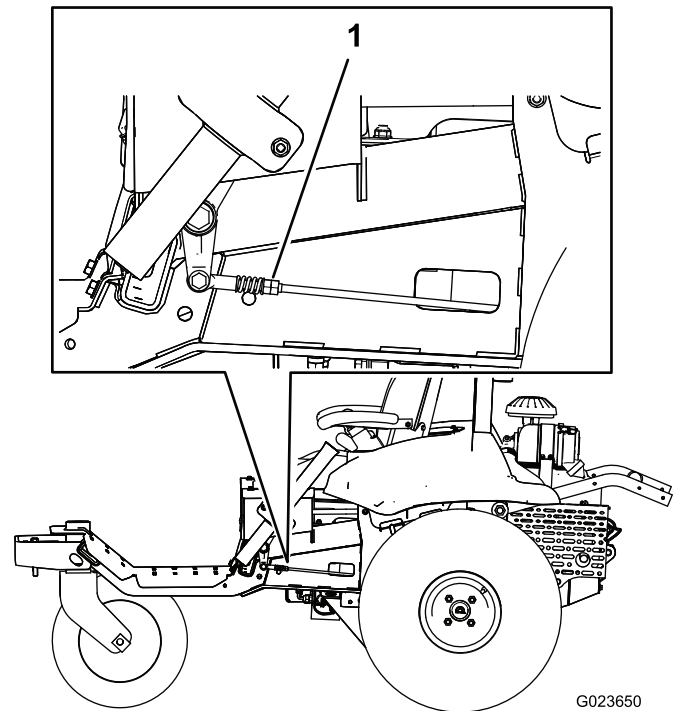

Figure 60
7. On 1 side of the machine, slowly turn the double nuts on the linkage (Figure 60) until the wheel on that side starts to rotate, then turn the double nuts in the opposite direction until the wheel rotates in the other direction.